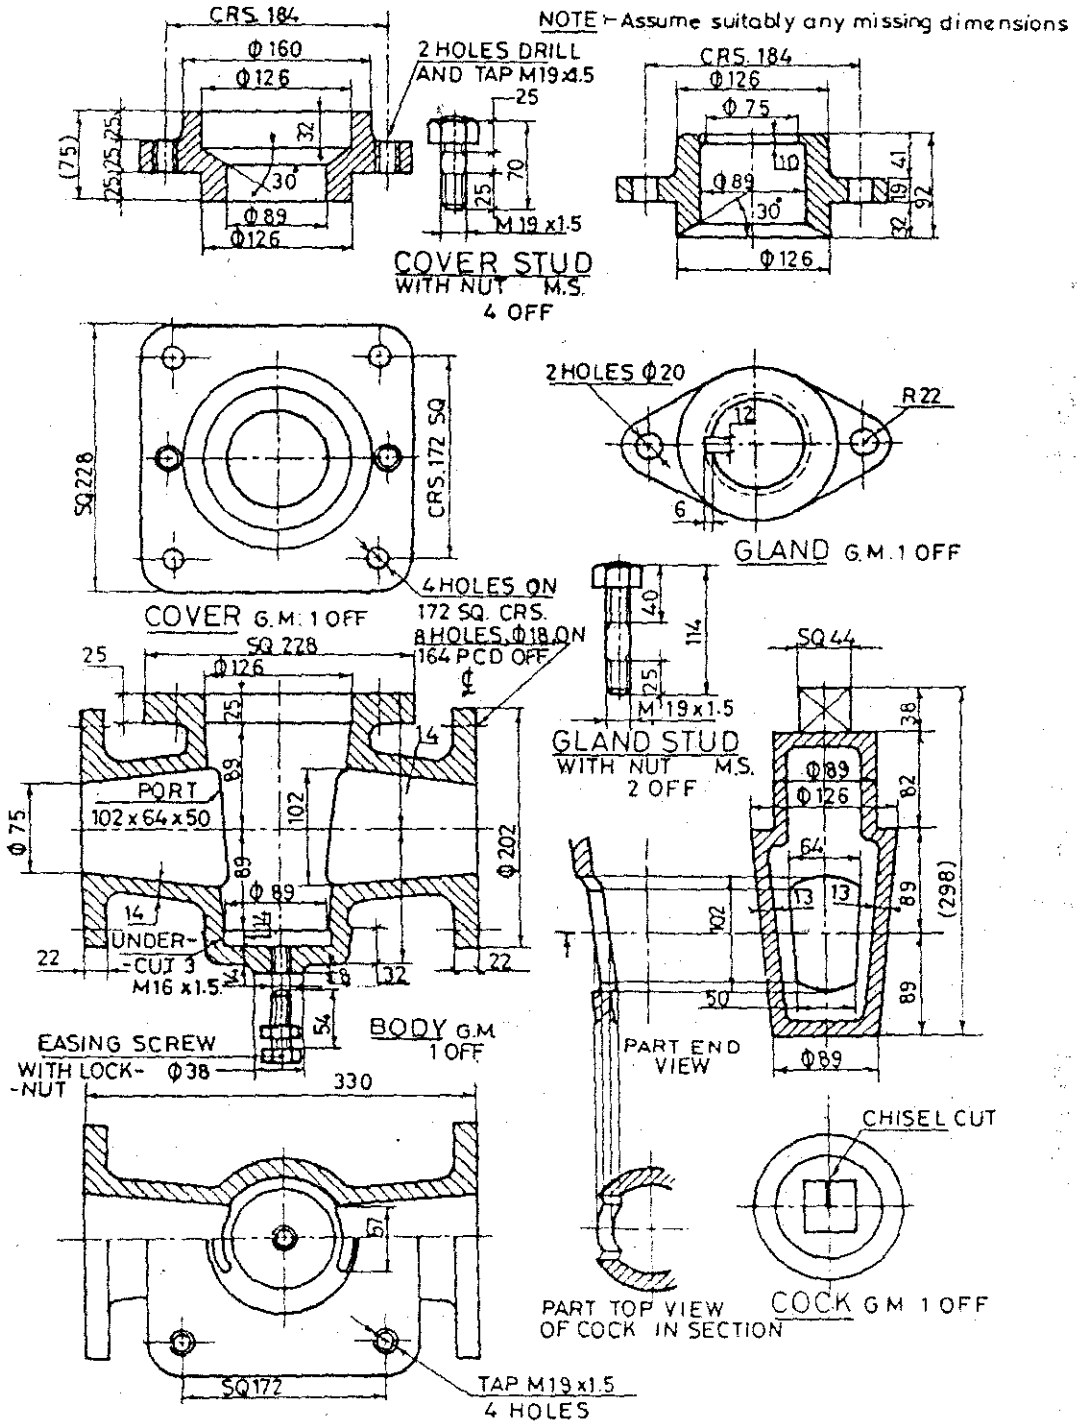

Fig:3
- V. Figure 3 shows the details of a Blow-off Cock. Draw the following assembled views: (50)